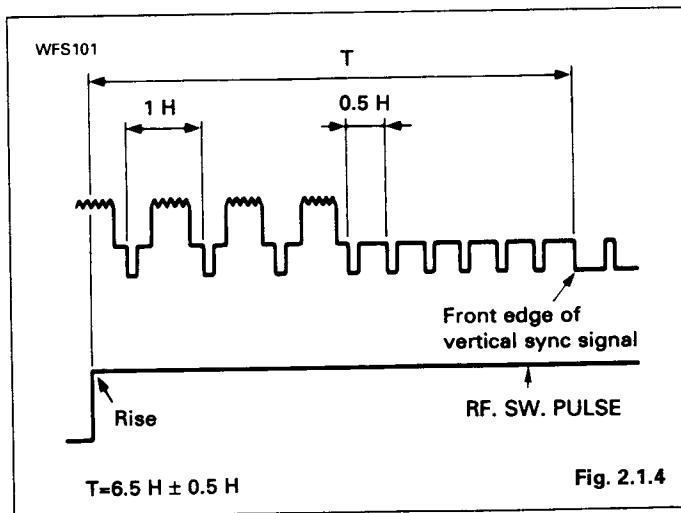

Fig. 2.1.4
2. Adjust VR351 (SW-P) so that the width "T" becomes $6.5 \text{ H} \pm 0.5 \text{ H}$ as shown in Fig. 2.1.4.